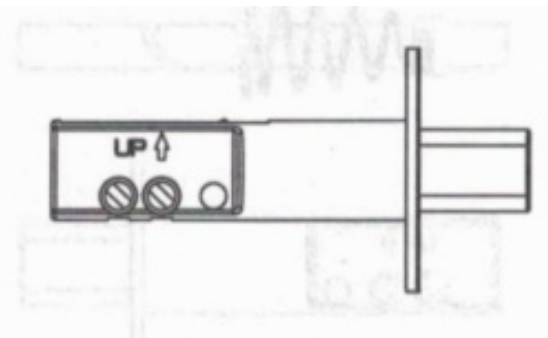

Figure4b
- The guide will locate in Hole 'O' of the latch to help maintain positioning. (Figure 4b)